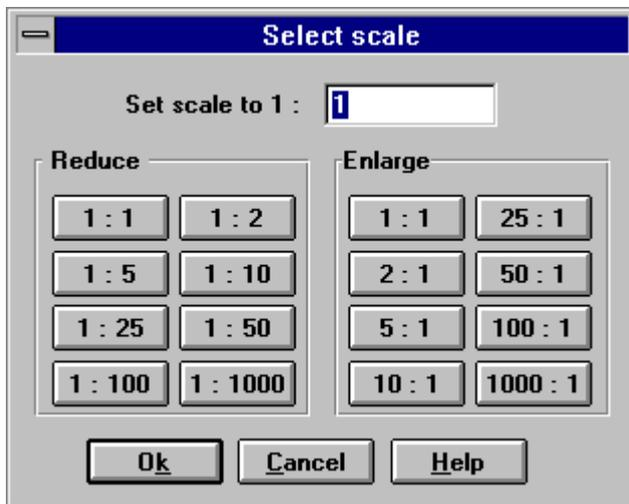

Fig 3.6 **Select Scale** dialog box
**Options** | **Scale** command calls dialog box for shaft drawing scale setting (fig 3.6). This dialog box includes edit box *Set Scale*, where you can enter desired scale and a number of buttons that set some of the most frequently used scale factors (1 : 2, 1 : 5, 1 : 10 etc).